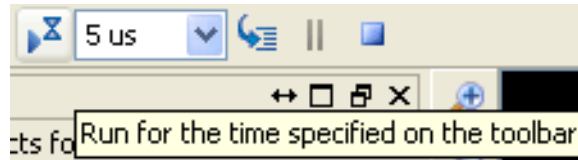

Figure 4-12: Simulation Time Field
- Typing “5 us” in the Simulation Time field on the menu toolbar (refer to Figure 4-12); then, either